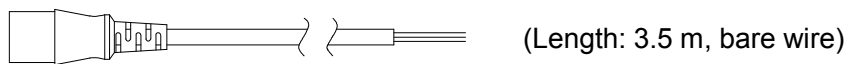

Fig.7-8 AC Power cord for 200V
6. When using 200 VAC power supply, use optional AC power cord 200 V (Figure 7-8: 0311-5112).